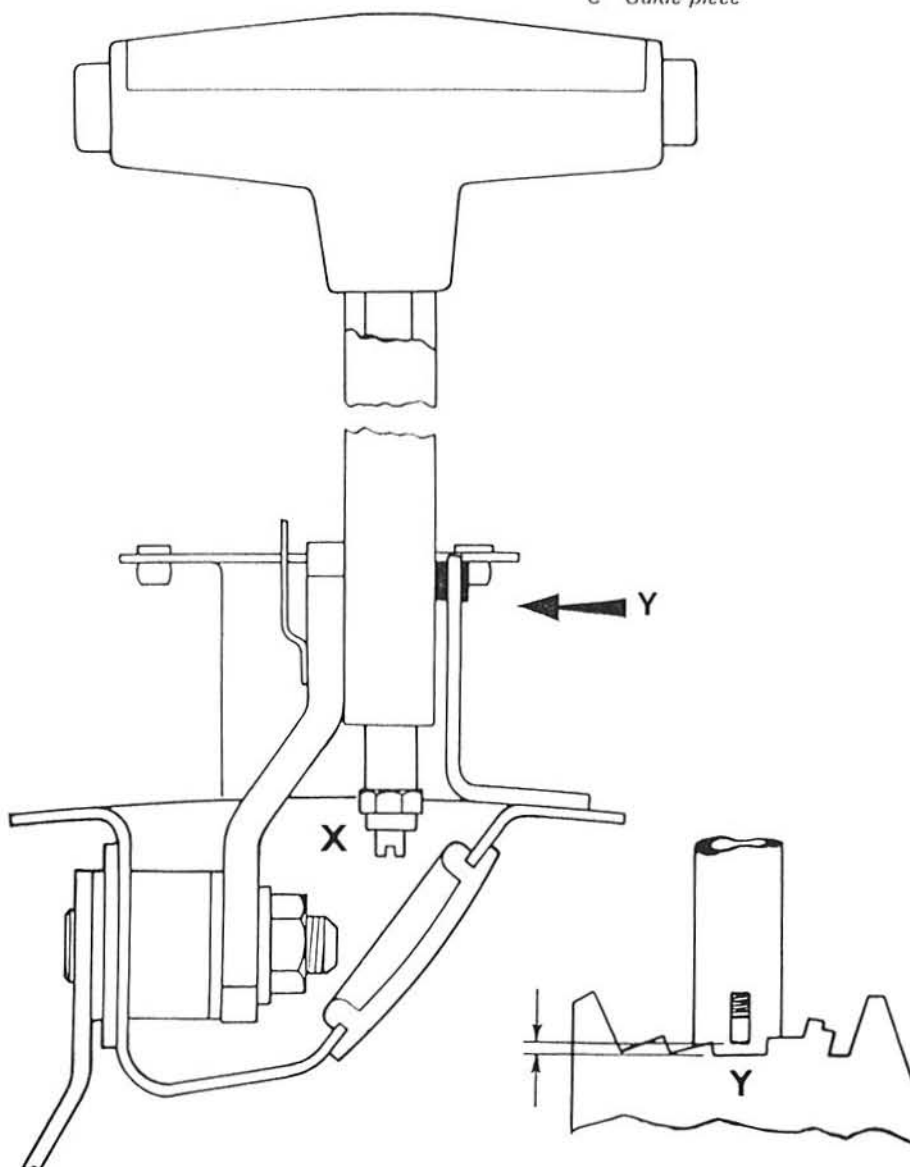

Fig. 6.36 Selector mechanism adjustment (Sec 22)
- 3 Adjust the inhibitor cable locknut X to give a dimension of 0.1 to 0.2 mm (0.004 to 0.008 in) (Fig. 6.36).